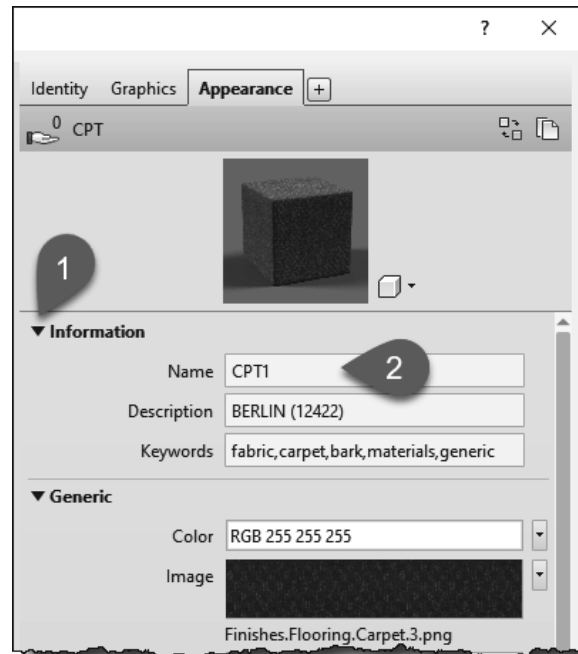

FIGURE 4-3.8 Editing an appearance asset
Notice, on the *Appearance* tab (Figure 4-3.8), that a PNG raster image is assigned to this material. You will use an image you just downloaded from the carpet manufacturer's website and then edit your *Material* to use this new image. Keep in mind that anyone who might work on the project needs access to the image file location. So, in an office environment, you would not want to save this file to your local hard drive.
21. Expand the **Information** area and change the *Name* to **CPT1** (see Figure. 4-3.8).